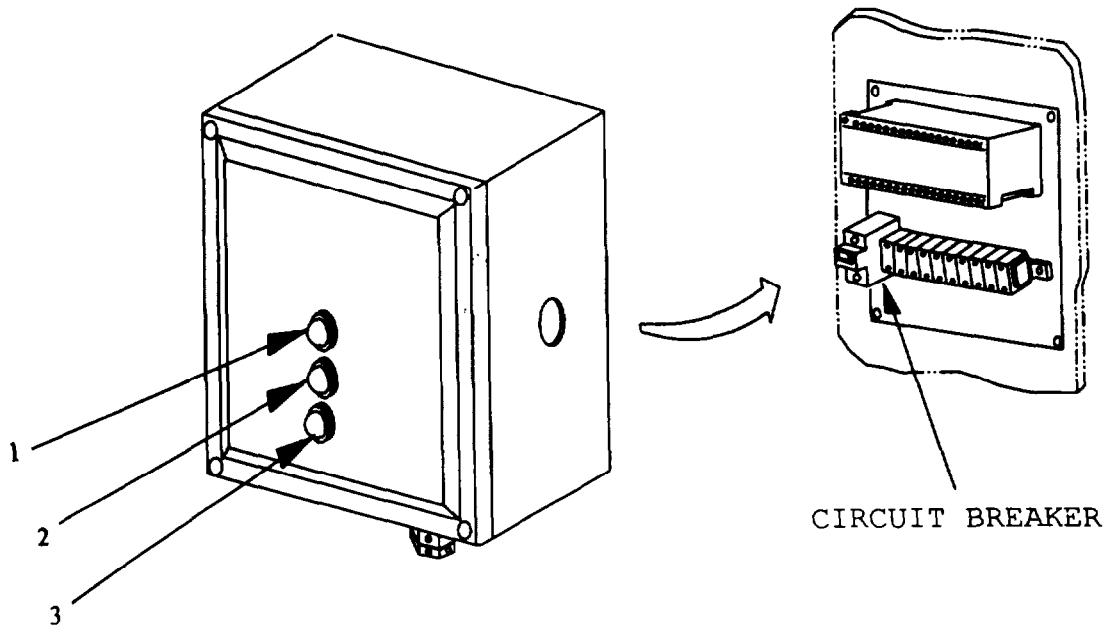

Figure 2-65a. Solid State Timer.
(2) Models H-9518-1, H-9518-2 and H-9518-3 (refer to figure 2-65a):